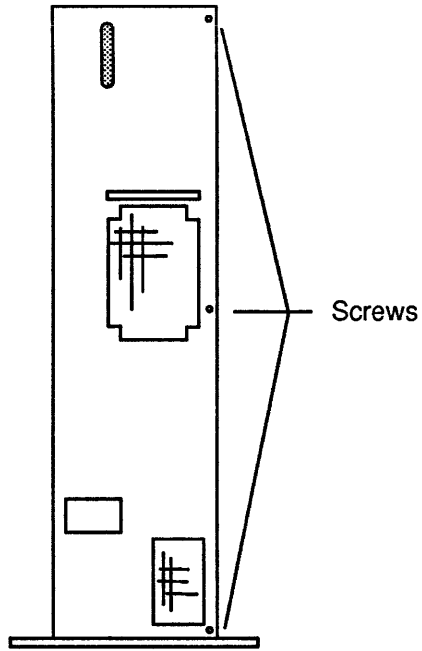

Figure C.1. Expansion Cabinet Side Panel Screws
2. Remove the three screws along the right edge of the rear panel of the Expansion Cabinet. Refer to Figure C.1.